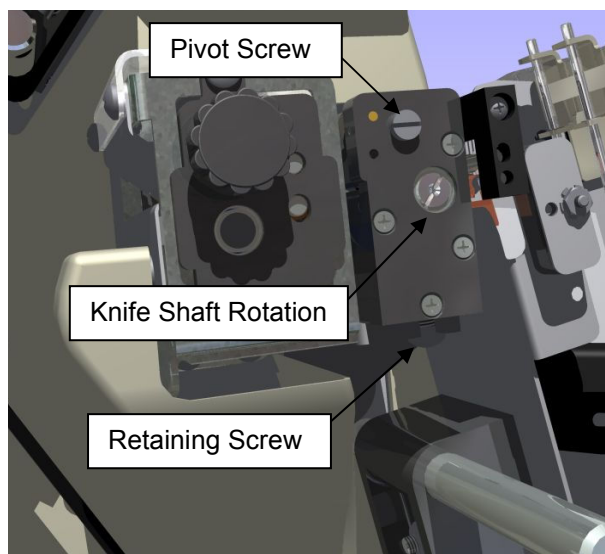

Figure 18b. Outboard End View of Knife
4. Place your right index finger on the head of the retaining screw and your thumb on top of the assembly and lift up. This will remove the key that is machined into the knife base from the groove in the mounting bracket (see Fig. 18b).